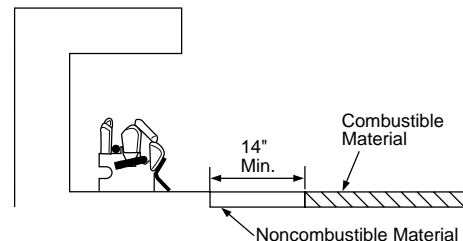

Figure 9 - Minimum Fireplace Clearances If Installed at Floor Level
- If installing appliance on the floor level, you must maintain the minimum distance of 14" to combustibles (see Figure 9).